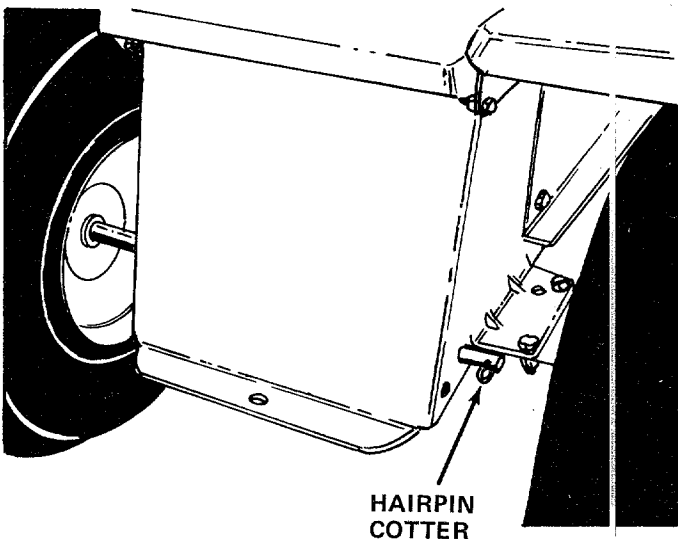

FIGURE 5
3. Remove the two hairpin cotters on the rear of your tractor. See figure 5. These will be re-assembled to your unit in steps 4 and 9.